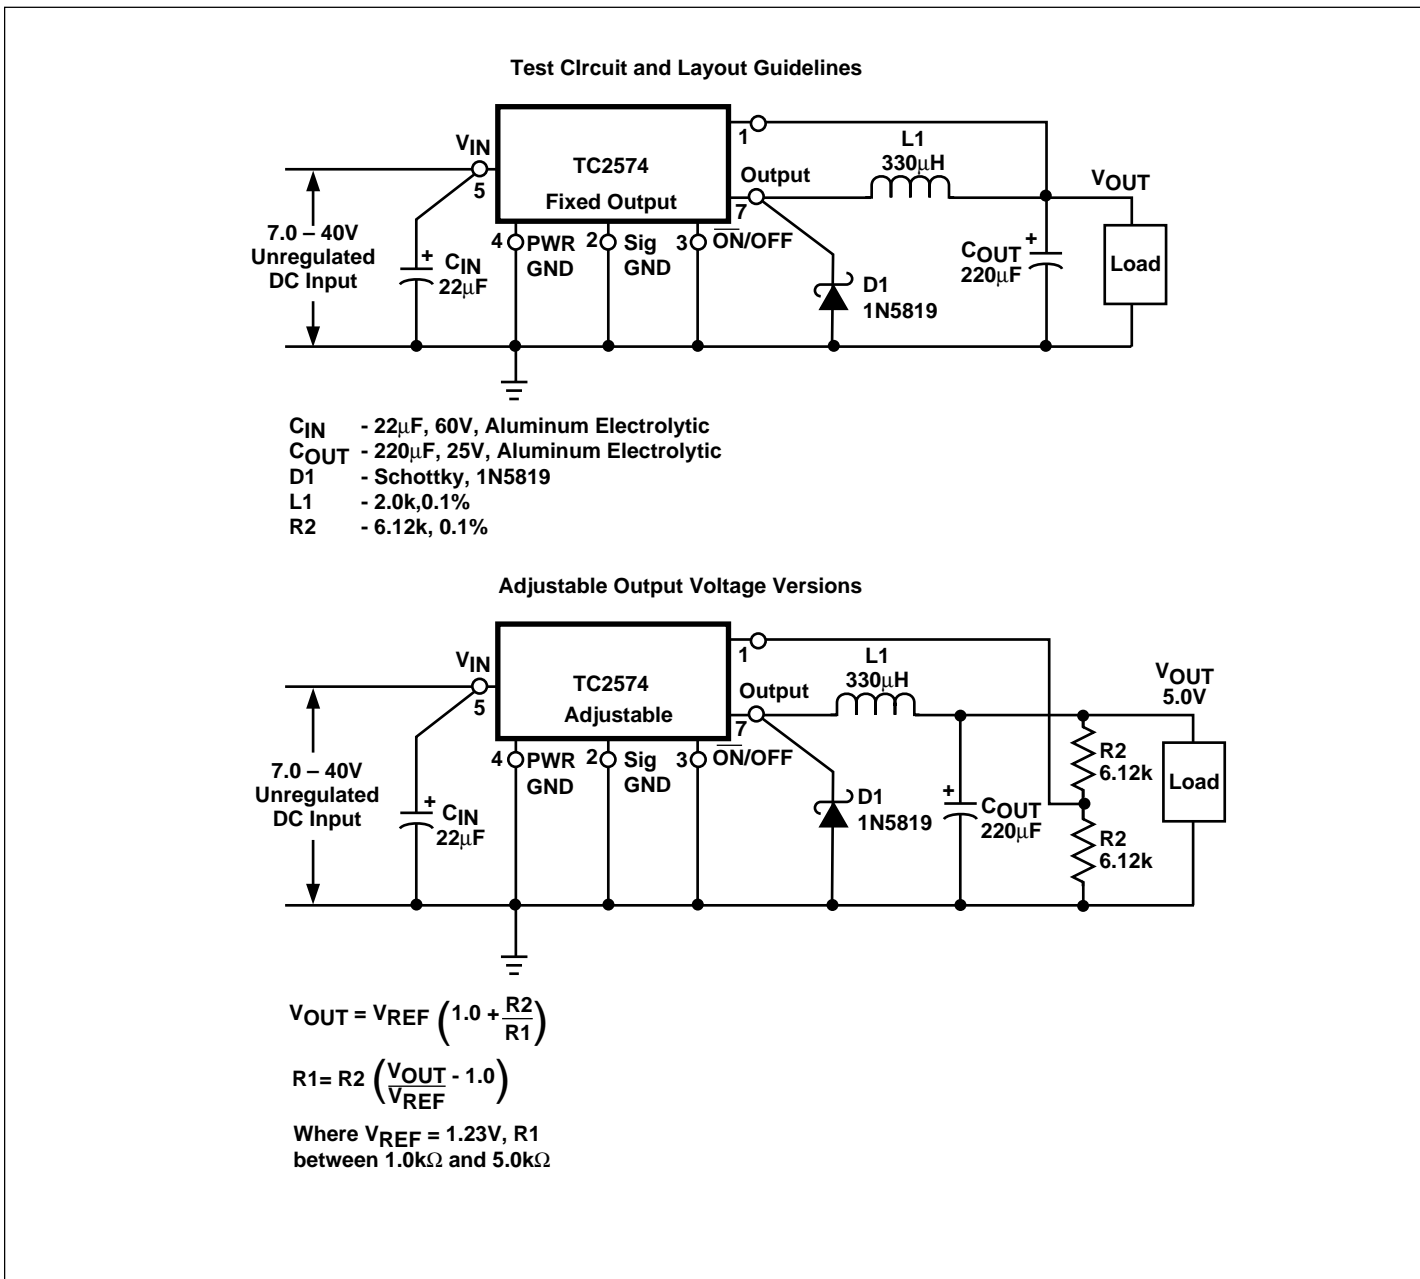

Figure 2. Test Circuit and Layout Guidelines
TC2574-3.3 [(Note 1) Test Circuit Figure 2]
TC2574-5 [(Note 1) Test Circuit Figure 2]
TC2574-12 [(Note 1) Test Circuit Figure 2]
TC2574-Adjustable Version [(Note 1) Test Circuit Figure 2]
- External components such as the catch diode, inductor, input and output capacitors can affect the switching regulator system performance. When the TC2574 is used as shown in the Figure 2 test circuit, the system performance will be as shown in the system parameters section of the Electrical Characteristics.
TC2574-ADJUSTABLE VERSION [(Note 1) Test Circuit Figure 2]
As with any switching regulator, the layout of the printed circuit board is very important. Rapidly switching currents associated with wiring inductance, stray capacitance and parasitic inductance of the printed circuit board traces can generate voltage transients which can generate electromagnetic interferences (EMI) and affect the desired operation. As indicated in the Figure 2, to minimize inductance and ground loops, the length of the leads indicated by heavy lines should be kept as short as possible.
<p>1. Programming Output Voltage</p> <p>To select the right programming resistor R1 and R2 value (see Figure 2) use the following formula:</p> $V_{OUT} = V_{REF} \left(1.0 + \frac{R2}{R1} \right) \text{ where } V_{REF} = 1.23V$ <p>Resistor R1 can be between 1.0kΩ and 5.0kΩ. (For best temperature coefficient and stability with time, use 1% metal film resistors).</p> $R2 = R1 \left(\frac{V_{OUT}}{V_{REF}} - 1.0 \right)$	<p>1. Programming Output Voltage (selecting R1 and R2)</p> <p>Select R1 and R2</p> $V_{OUT} = 1.23 \left(1.0 + \frac{R2}{R1} \right) \text{ Select } R1 = 1.0k\Omega$ $R2 = R1 \left(\frac{V_{OUT}}{V_{REF}} - 1.0 \right) = 1.0k \left(\frac{10V}{1.23V} - 1.0 \right)$ <p>R1 = 18.51kΩ, choose a 18.7kΩ metal film resistor.</p>